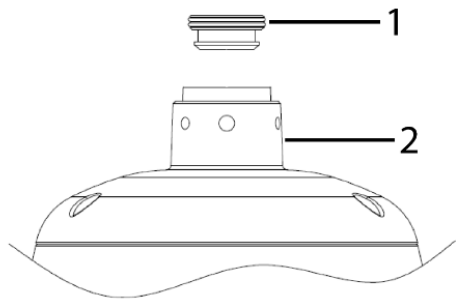

Figure 6
- A. Securely place the rubber cable seal (1) (Figure 6) into the NPT pendant cap (2) (Figure 6).